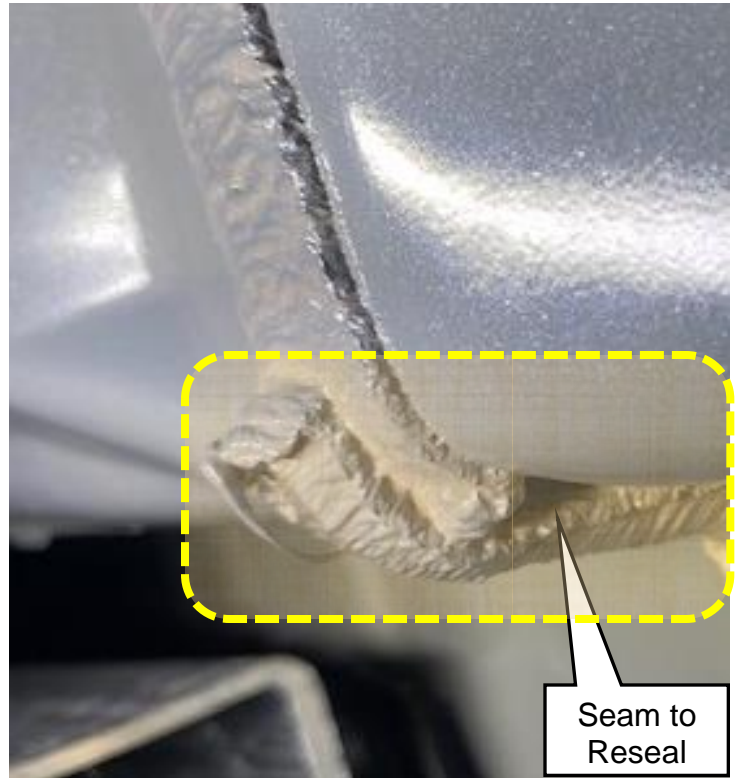

Figure 11
- Repeat this process until the seam gap shown in Figure 11 on Page 7 is completely sealed
9. Using the brush with the seam sealer on it, apply the seam sealer to the right rear panel seam gap identified in Figure 11.